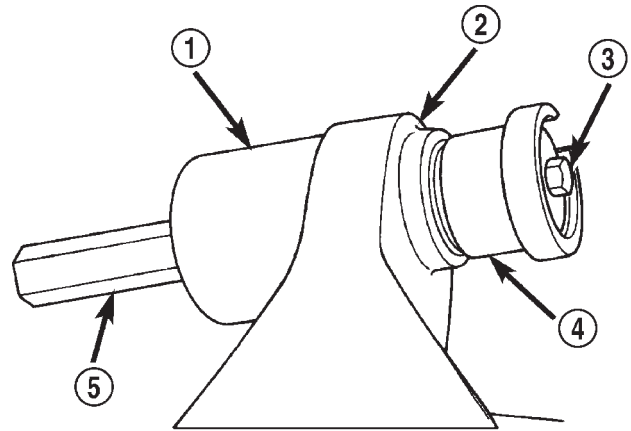

Fig. 4 Bushing Removal
- (1) Remove the upper suspension arm from axle.
- (2) Position Spacer 7932-3 over the axle bushing on a 4x2 vehicle and right side on a 4x4 vehicle.
- (3) Place Receiver 7932-1 over flanged end of the bushing. (Fig. 4).
- (4) Place small end of Remover/Install 7932-2 against other side of the bushing.
- (5) Install bolt 7604 through remover, bushing and receiver.
- (6) Install Long Nut 7603 and tighten nut too pull bushing out of the axle bracket.